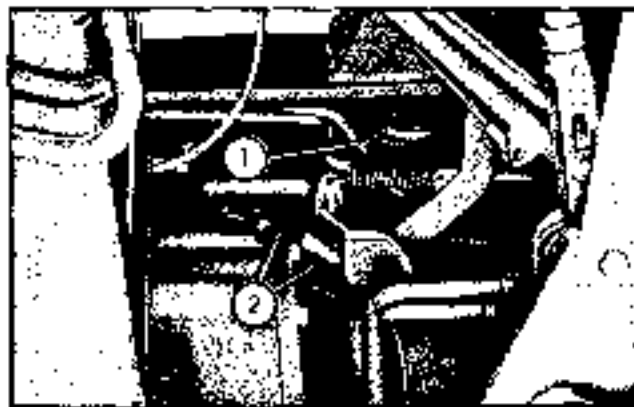

Fig. 1-26. Master cylinder assembly
c. Loosen bleed screws (figure 1-26) and bleed both brakes. Replenish fluid as necessary.
e. When brake linkage is properly adjusted, engage hand brake and pump up brakes with pedal. Remove cover (17) from master cylinder (20). Release hand brake and release brake pedal. A definite "sting" of fluid must be seen entering the fluid chamber when the brake pedal is released.